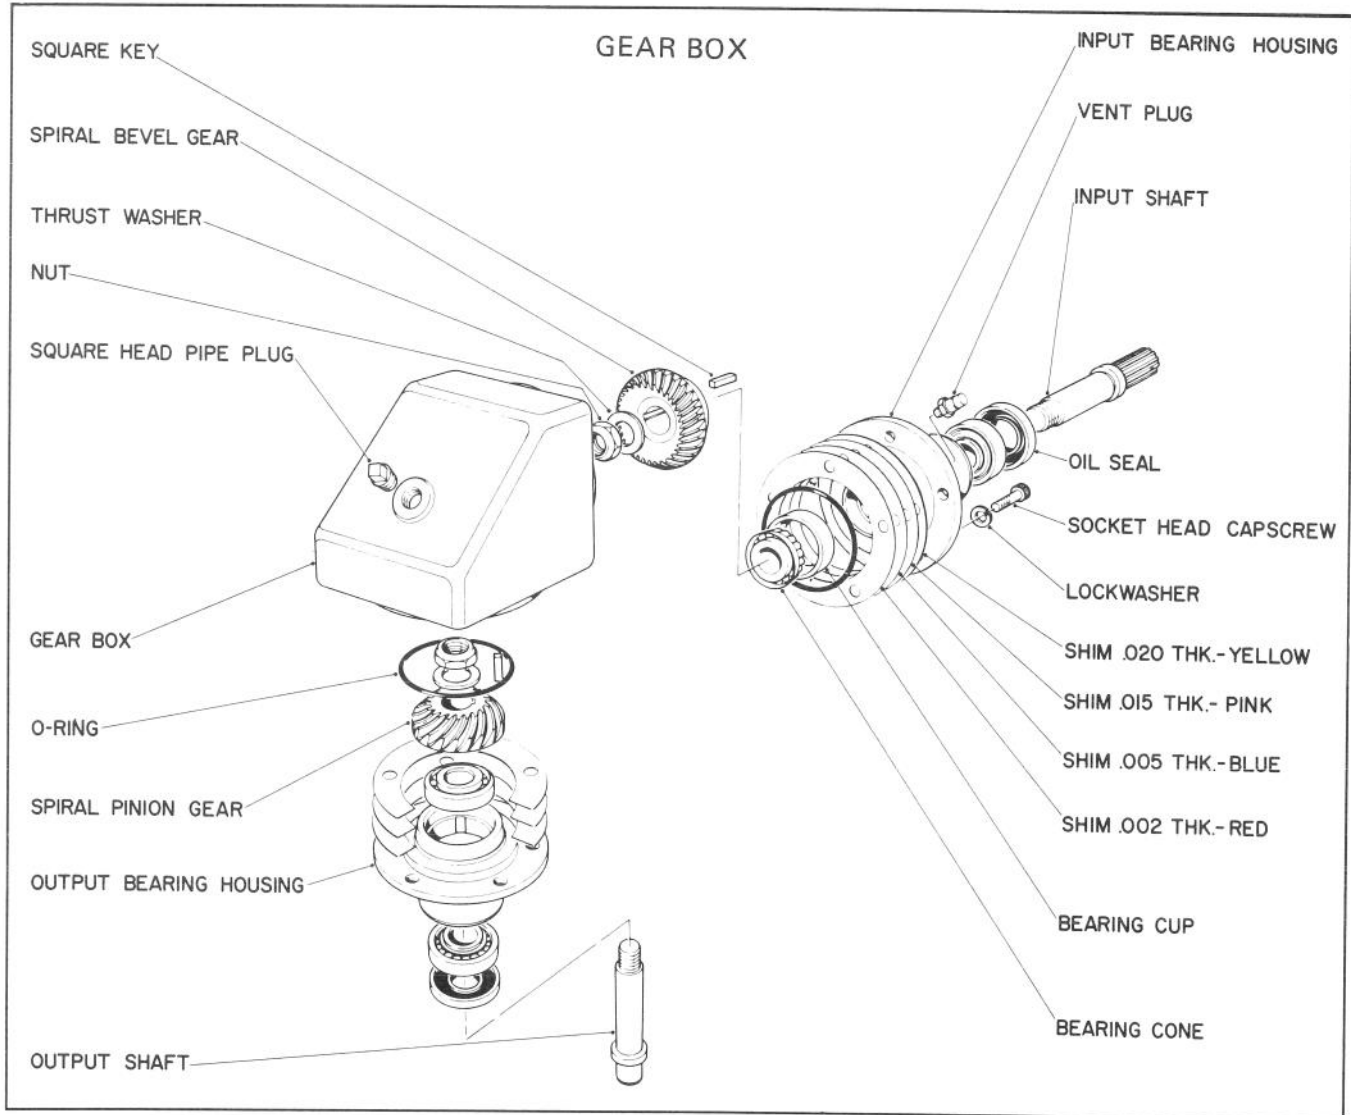
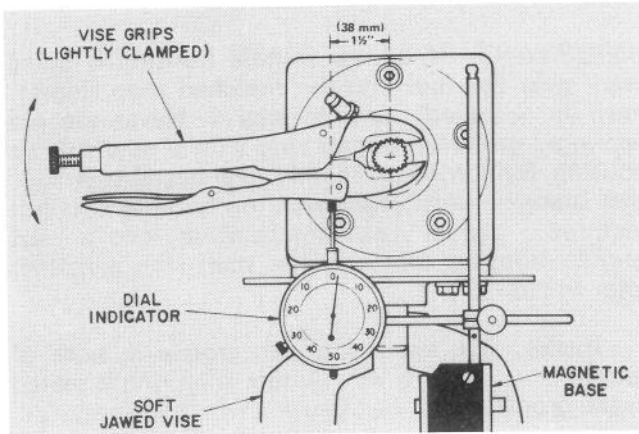

Figure 41
Figure 42
2. Remove pipe plug from gear box and drain oil out of gear box (Fig. 41).
1. Remove five (5) capscrews securing input housing assembly; tap input housing with soft-faced hammer and pull on input shaft to remove from gear box (Fig. 41).
2. Remove five (5) capscrews securing output bearing housing to gear box, tap housing with soft-
faced hammer and pull on output shaft to remove assembly from gear box (Fig. 41).
4. Use a bearing separator to remove gear from shaft. Remove square key (Fig. 41).
5. Support mount flange of input housing in arbor press and press shaft, threaded end up, out of housing (Fig. 41).
7. Use steps 3 through 6 to disassemble the output shaft assembly (Fig. 41).
8. Discard and replace the shaft, nut, shaft seal and housing O-ring for both assemblies (Fig. 41). Discard and replace all worn and damaged parts.
1. Press bearing cups into bearing housing with small I.D. of cups toward inside of housing (Fig. 41).
3. Press on the remaining bearing cone. Install square key and press on gear. Use Loc-tite 242 or 601 on shaft and gear. Install thrust washer and nut (Fig. 41).
5. Apply No. 2 Permatex to outer surface of seal, apply oil to seal lips and press new seal into housing with seal lips facing inward (Fig. 41).
1. Install shims on housing (Fig. 41).
2. Oil O-rings, install on housing (Fig. 41) and insert both shaft assemblies into gear box (Fig. 41).
4. Clamp the output shaft of gear box in a soft-jawed vise, lightly clamp a pair of vise-grip pliers to the input shaft, mount a dial indicator with magnetic base to the vise, move vise grips up and down and check input gear backlash (Fig. 42). Backlash should be .005-.010 inch (0.13-0.25 mm) with indicator positioned one and one-half inch (38 mm) from center of shaft (Fig. 42). If backlash is incorrect, remove input housing assembly and add or subtract shims as necessary. Repeat procedures until correct backlash is obtained. Shims are available in .002, .005, .015 and .020 inch (0.051, 0.13, 0.38 and 0.51 mm) sizes (Fig. 41).